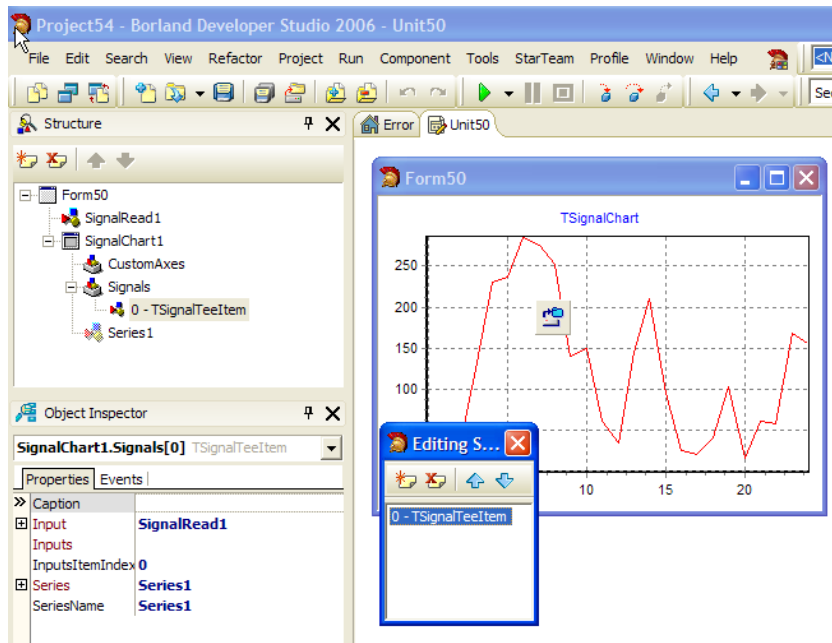

Figure 1 Connecting TSignal with TSignalChart
4. Add a new Item to the list and specify SignalRead1 as the Input and Series1 for the series property. (Figure 1) Once complete close the popup window.